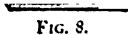

FIG. 8.
8. *Retort-stand.*—This is a most useful article. A good one will cost at least half a crown to buy it; but a serviceable one can be made very cheaply. Fix an iron rod, 15 in. high, into a flat piece of hard wood. Take two turns with some stout copper wire round the rod, allow 2 in. at right angles to the rod, and then round an object of the circumference of the desired ring take another turn, fastening off before removing the object. Any number of rings, and of any size, can be made in this way. To hold them at the required place on the rod, tie a piece of cord firmly round the rod just underneath them. (Fig. 8.)